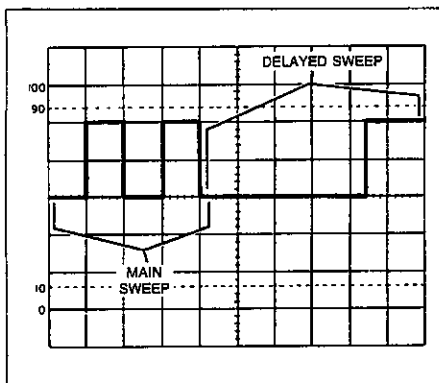

Fig. 4. MIX SWEEP MODE Display.
(Refer to Fig. 4)
2. Set the **SWEEP MODE** switch to the **MIX** position. The display will show the main sweep on the left portion (representing the **MAIN TIME BASE** control setting) and the delayed sweep on the right portion (representing the **DELAY TIME BASE** control setting). The **MAIN TIME BASE** portion of the trace will be brighter than the delayed time base portion. Fig. 4 shows a typical display for the **MIX** display mode.